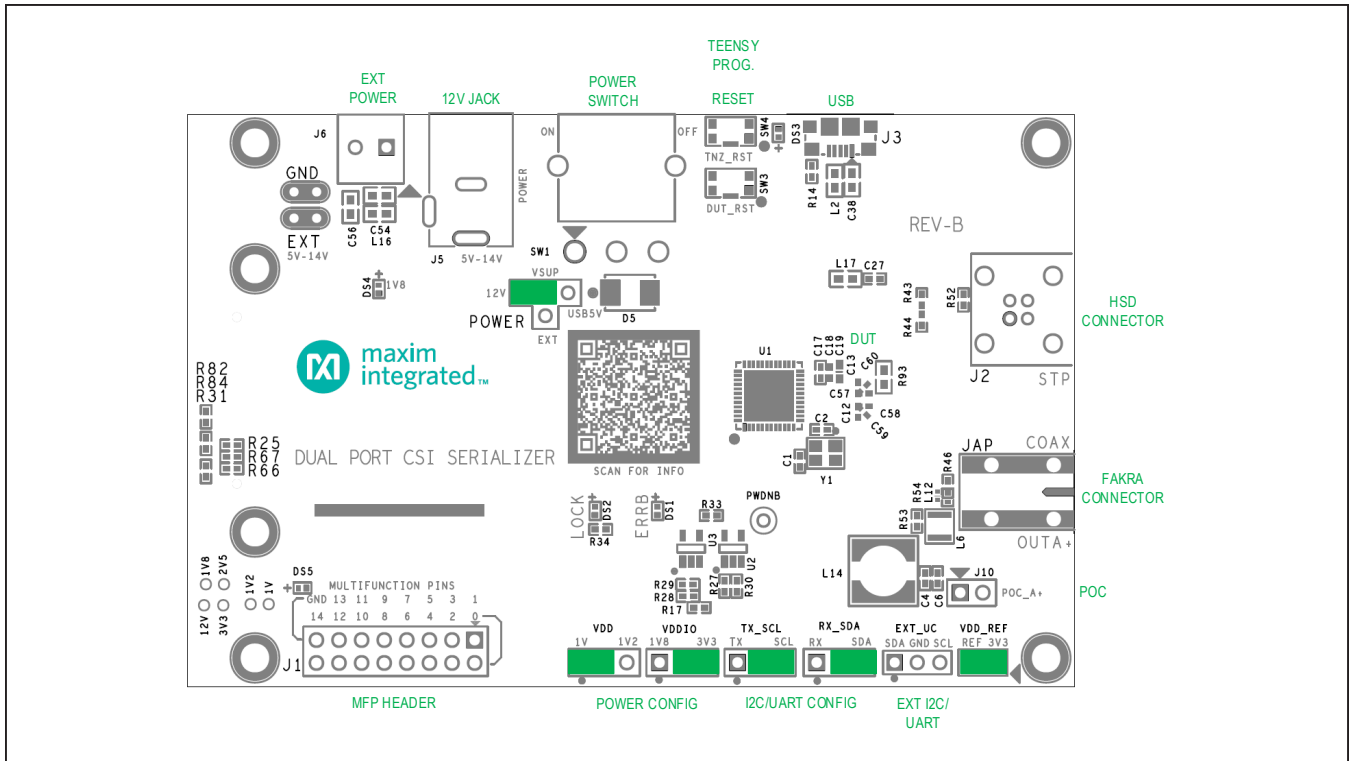

Figure 2. MAX9295D Coax/HSD EV Kit Key Components and Jumper Installation on Front of Board
- 3) Ensure that all jumper positions on the PCB are properly set to meet the requirements of the user's application. Figure 2 and Table 2 show the possible jumper positions for various configurations. The default jumper settings put the device under test (DUT) into I²C mode, select 3.3V as the V_{DDIO} voltage, select 1V as the V_{DD} voltage, and configure the board to be powered by the 12V DC barrel jack.